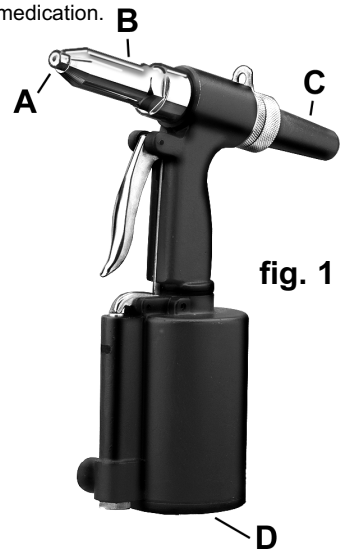

fig. 1
- 4.1.2. Hold upside-down and remove the air cylinder cap (fig. 1.D) with the spanner provided.
- 4.2.2. Remove the frame head (fig. 1.B) using the spanner provided.
- 4.3.2. Remove the frame head (fig. 1.B) using the spanner provided.
- 4.4.1. **DANGER!** Always fit the safety cap (fig. 1.C) to the rear of the frame before use to prevent injury from ejected rivet stems. Fit with the slot facing downwards so that stems fall to the floor.
- 4.4.2. Select the nosepiece (fig. 1.A) to suit the rivet size and fit to the frame head using the spanner provided.